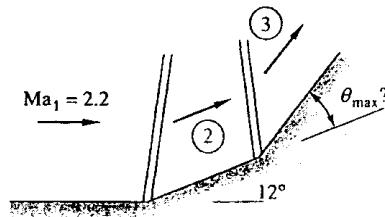

Fig. P9.139
**9.139** Airflow at  $\text{Ma}_1 = 2.2$  takes a compression turn of  $12^\circ$  and then another turn of angle  $\theta$  in Fig. P9.139. What is the maximum value of  $\theta$  for the second shock to be *attached*? Will the two shocks intersect for any  $\theta$  less than  $\theta_{\max}$ ?